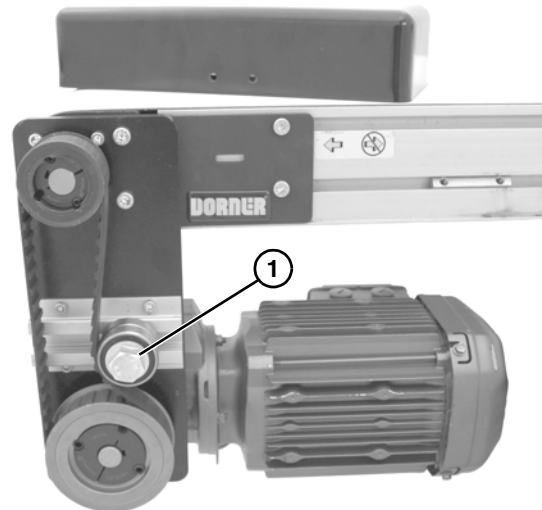

Figure 16
2. Loosen tensioner (**Figure 16, item 1**).